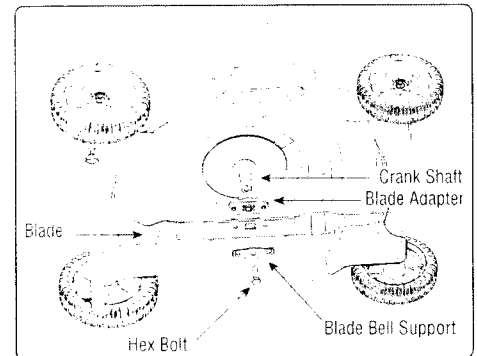

Figure 16: Mower blade and hardware
2. Remove the bolt and the blade bell support. See Figure 16.
8. Place blade on the blade adapter, Figure 16. Check that the blade is aligned and seated on the blade adapter flanges.